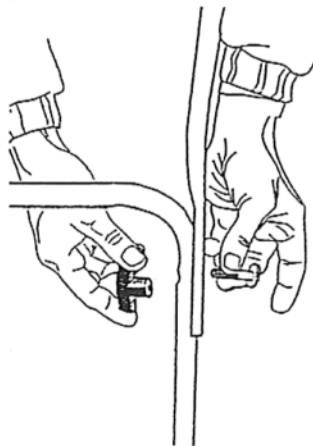

Figure 4
2. Attach the upper handle to the lower handle, with four (4) 5/16"-18 x 1 1/2" shoulder bolts and wing nuts (Fig 4)